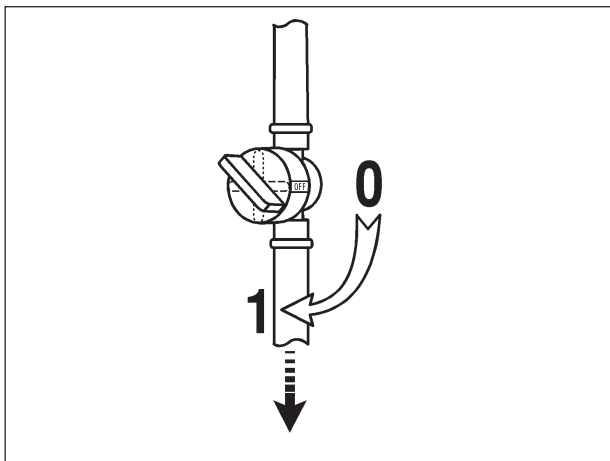

Fig. 13
1. Open the fuel valve. The handle should point down as shown in the fig.13.